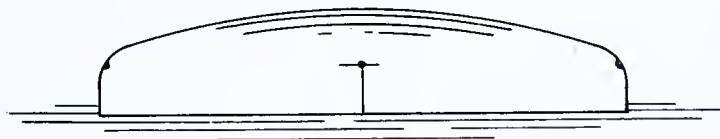

FIG. 272 — Step 11
11. Make a center-punch mark on the intersections made in Step 10. (Fig. 272).